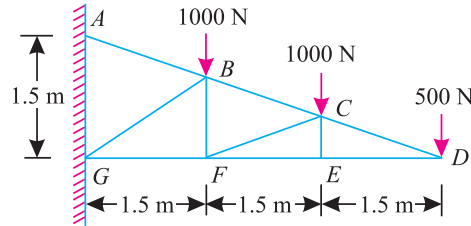

Fig. 14.25.
**Example 14.10.** Figure 14.25 shows a cantilever truss having a span of 4.5 metres. It is hinged at two joints to a wall and is loaded as shown.